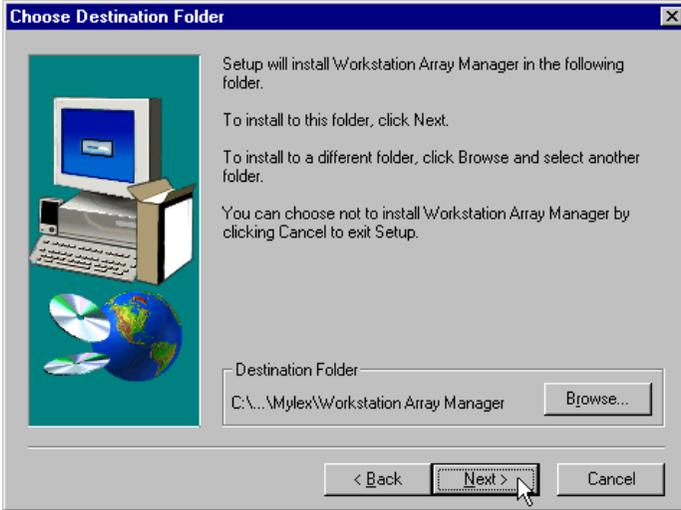

Figure 2-13. Destination Folder for Workstation Array Manager
The Choose Destination Folder dialog box is displayed (Figure 2-13).
1. In the Destination Folder area in Figure 2-13, the suggested directory path for installation of WSAM reads: